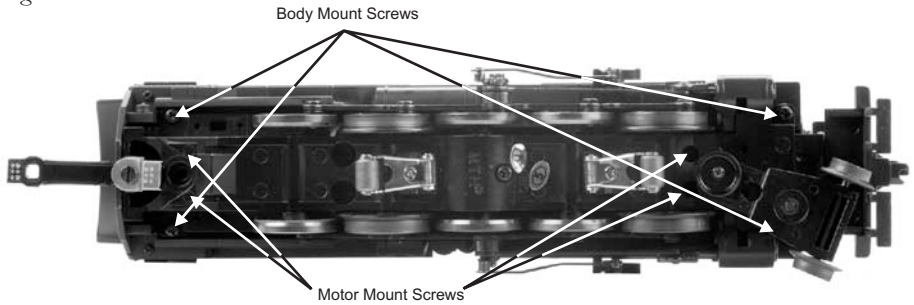

Figure 9: Body Mount Screws and Motor Mount Screws
2. Remove the boiler by removing the body mounting screws shown in Fig. 9
3. Remove the Phillips screws (marked “GREASE” (Fig. 9)) and the gearbox cover screws.
You should also grease the leading and trailing locomotive truck tongues to enhance their ability to slide on the chassis. Follow the grease points shown on Fig. 9.